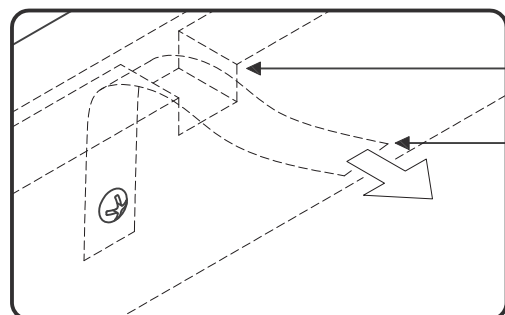

Figure 5
Move unit back into place and insert Tip-over Restraint into unit through hole in Back Rail (G). (See Figure 5)